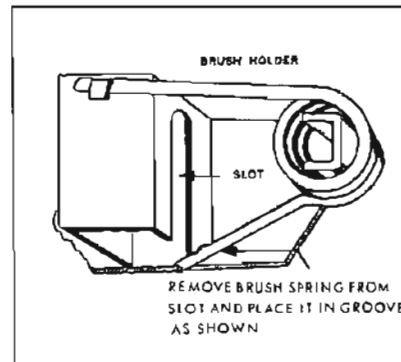

Figure 10-77—Releasing Brush Holder Spring Pressure
(1) Open armature.
(2) Brushes sticking.
(3) Brush springs improperly positioned (see Figure 10-77).
2. Release brush spring pressure against brushes as shown in Figure 10-77.